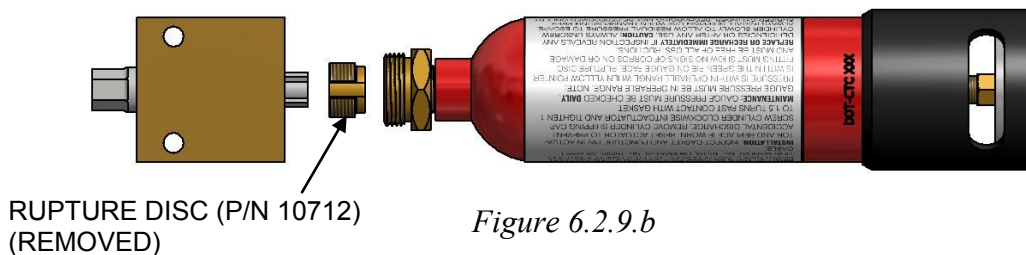

Figure 6.2.9.b
- Inspect sealing seat on Nitrogen Cylinder hex fitting. Discard Nitrogen Cylinder if seat is damaged (See Figure 6.2.9.c)